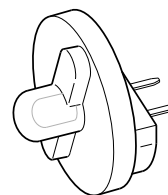

Figure 4-45. Fuel Injector Test Lamp (Part No. HD-34730-2C)
2. Use FUEL INJECTOR TEST LAMP (Part No. HD-34730-2C). See Figure 4-45.